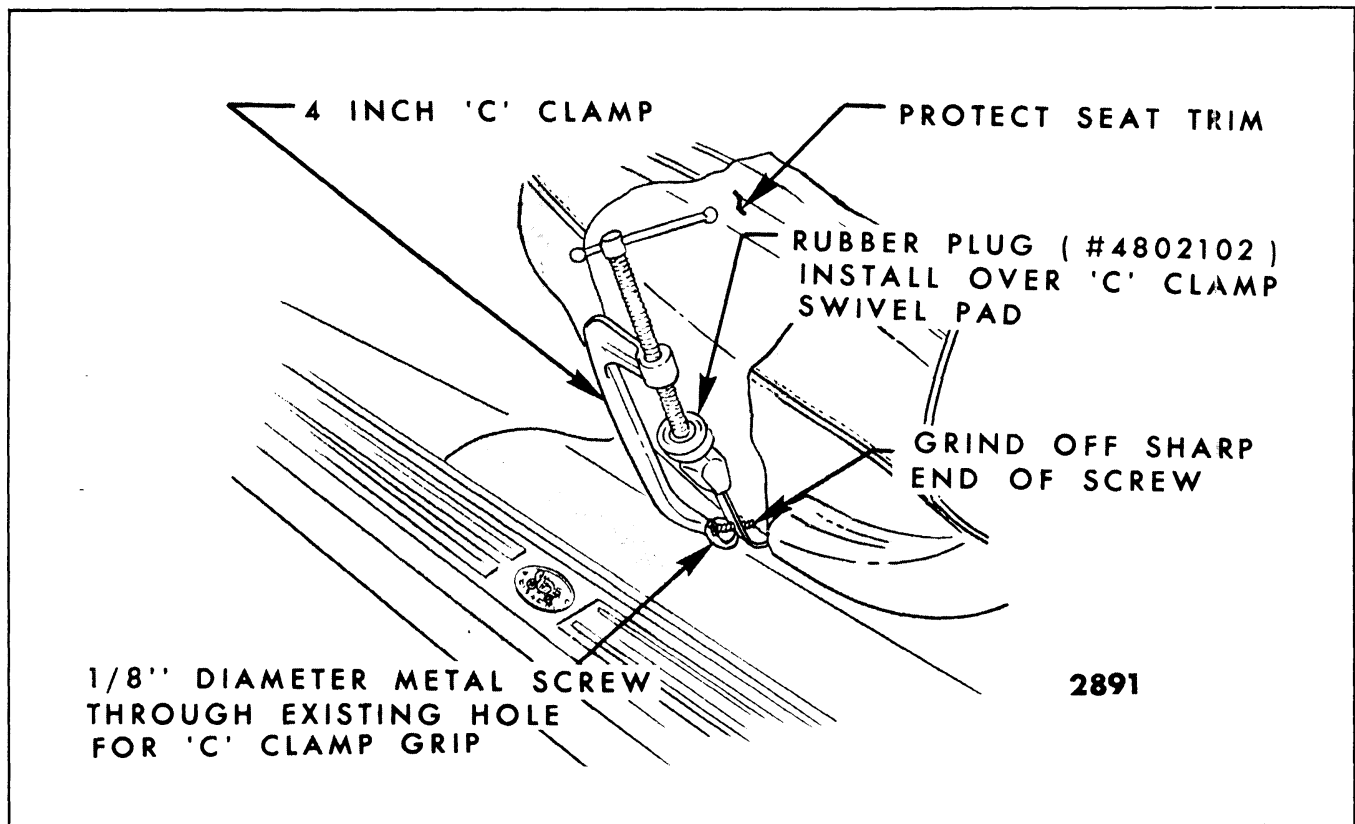

Fig. 9-5-Front Seat Adjuster Control Knob - Installation - Side Control Knob Shown - Front Control Knob Typical
3. Insert sheet metal screw or drift pin in hole provided in adjuster control arm and place "C" clamp in position as shown in Figure 9-5. Use round rubber plug (Part No. 4802102 or equivalent) over swivel pad of "C" clamp to prevent damage to knob and to prevent "C" clamp swivel pad from slipping off knob.